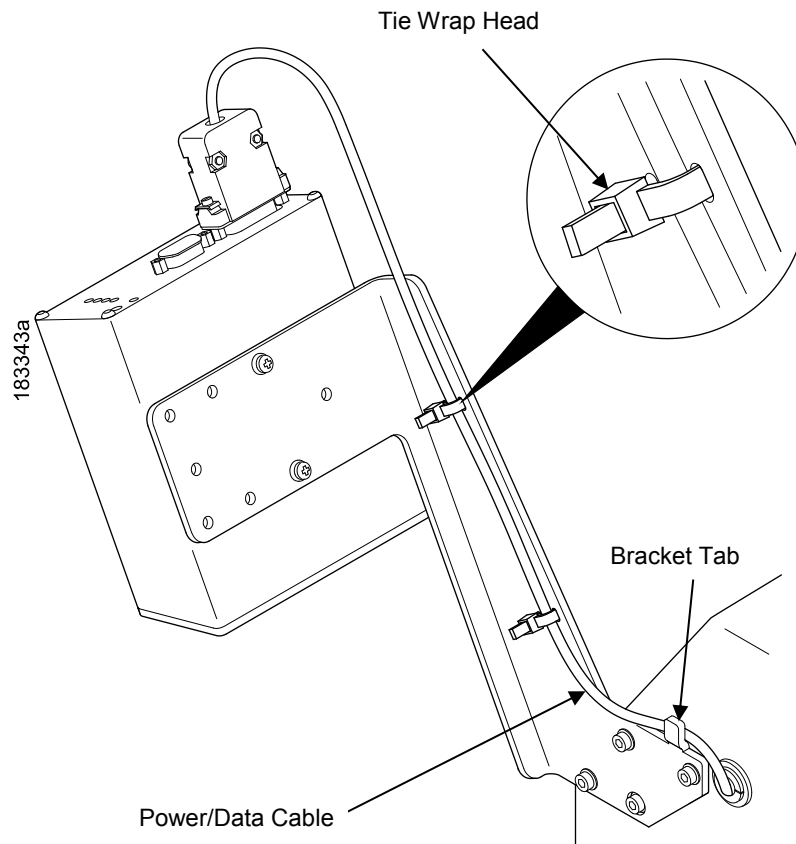

Figure 22 Securing the Power/Data Cable (T8)
4. Route the tie wrap back through the second upper slot and underneath the power/data cable and then through the tie wrap head, as shown in Detail A of Figure 22.
7. Route the power/data cable behind the bracket tab as shown in Figure 22.